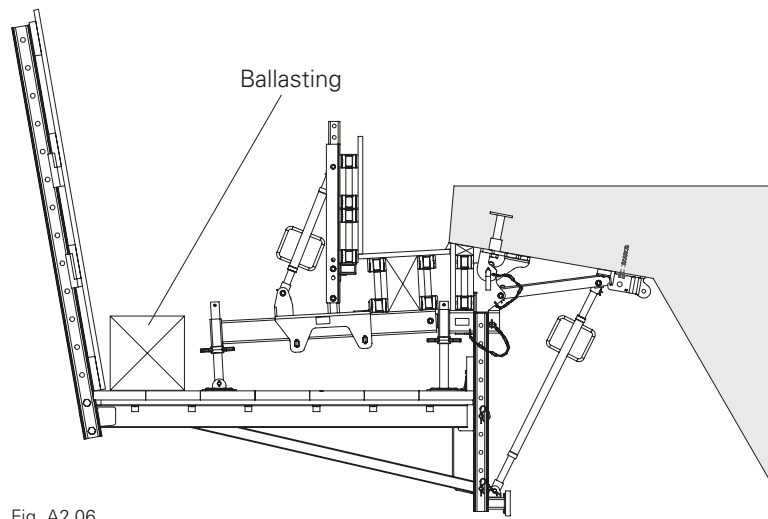

Fig. A2.06
- When installing with full enclosure, additional measures such as ballasting are required for securing. (Fig. A2.06)